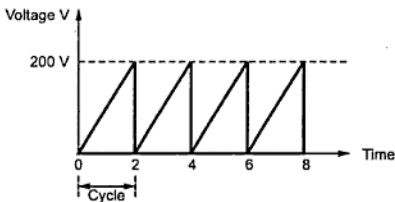

Fig. 4.35
►► **Example 4.16 :** Calculate the average and effective values of the saw tooth waveform shown in Fig. 4.35.